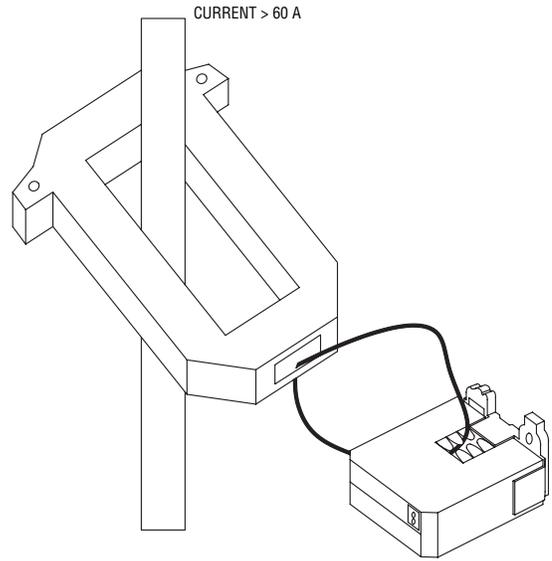

Figure 3
Use a 5 A current transformer (CT) to reduce the current passing through the MSCS-220015. (See Figure 3) Run the current transformer secondary wire through the sensing hole. Terminate the two secondary wires of the 5A current transformer to each other, and then install the 5A current transformer on the monitored conductor.